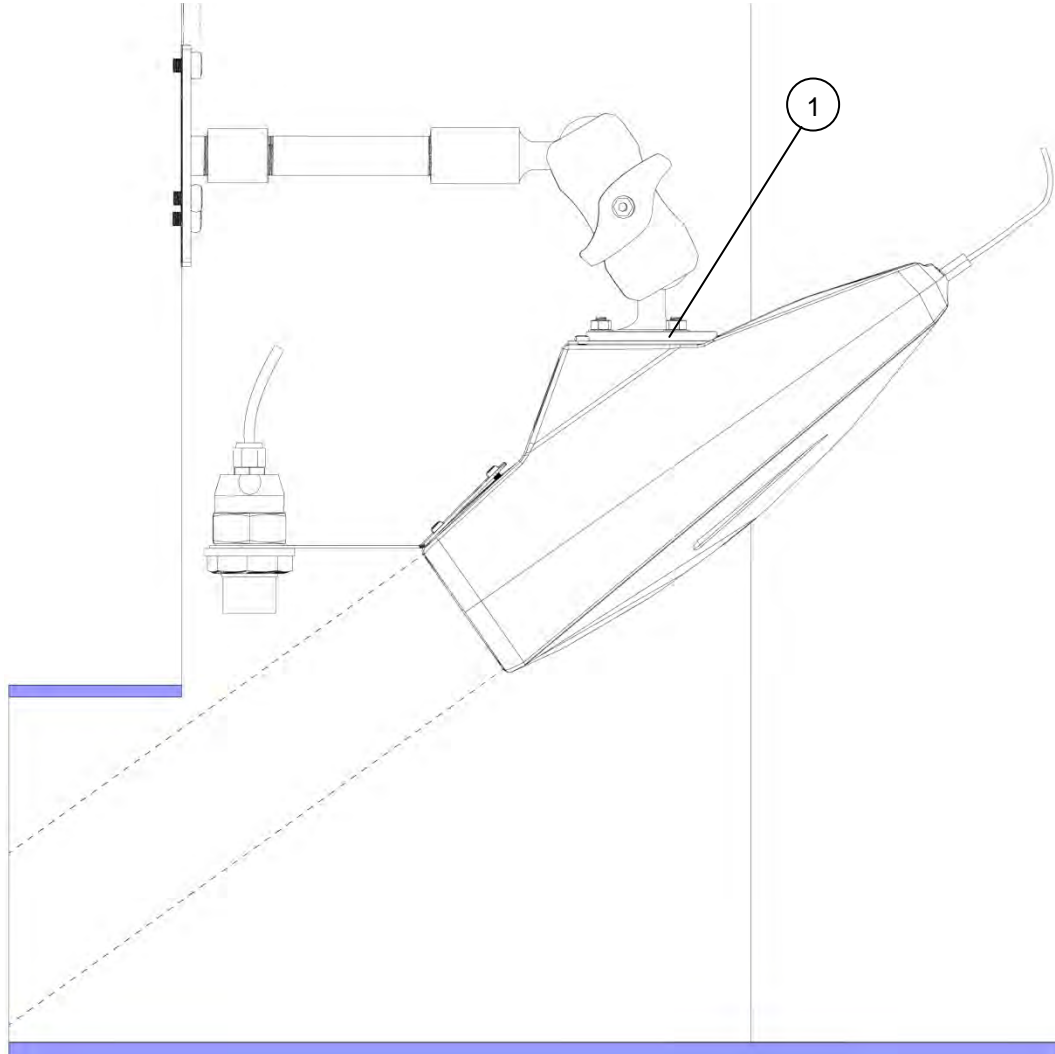

Figure 12: Horizontal alignment of the RAVEN-EYE® sensor
1. Use a bubble level and position it on the horizontal platform of the RAVEN-EYE® (see point 1 on Figure 12).